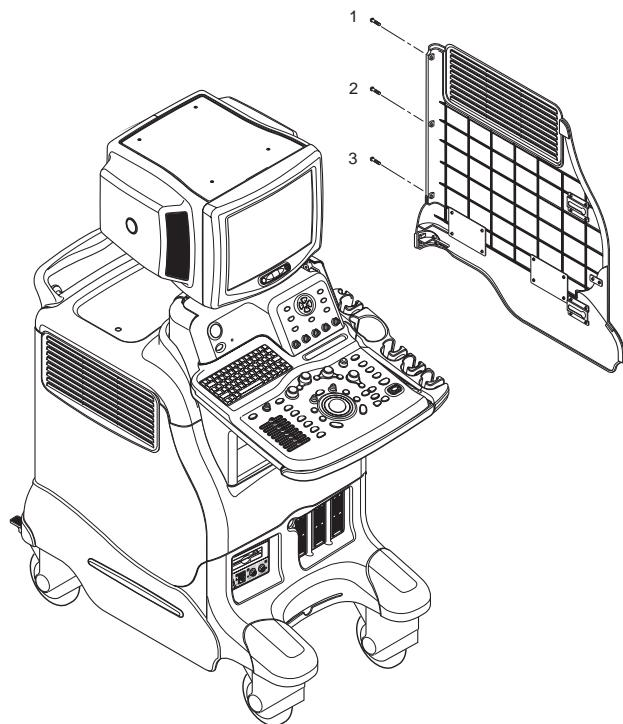

Figure 8-44 Removing the right cover
- 3.) Remove the Right Cover. Refer to Figure 8-44.